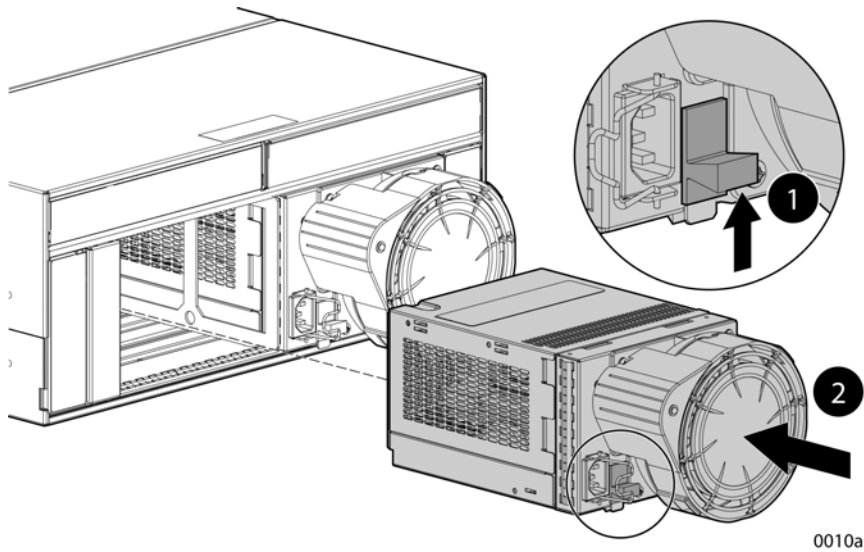

Figure 55 Installing a power supply
1. Lift up on the module latch (1, Figure 55) and slide the power supply into the enclosure until it is fully seated.